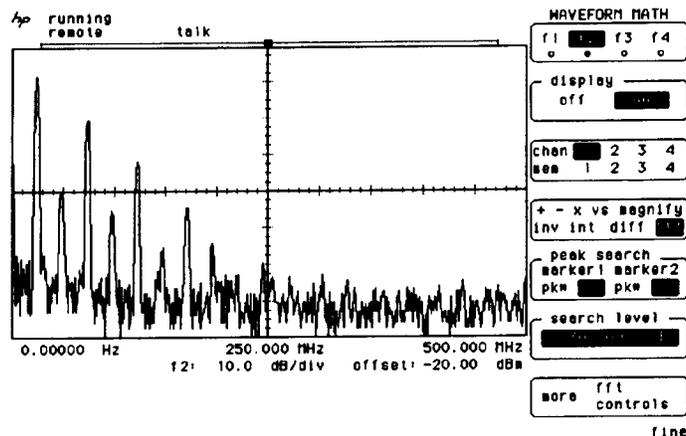

Figure 9-8. FFT Plot of Channel 1 Signal
- Press WFORM MATH to define the function. Select *f2* and turn the display *on*. Select the *fft* operator and *chan 1* operand. The FFT is plotted on the display as in figure 9-8.